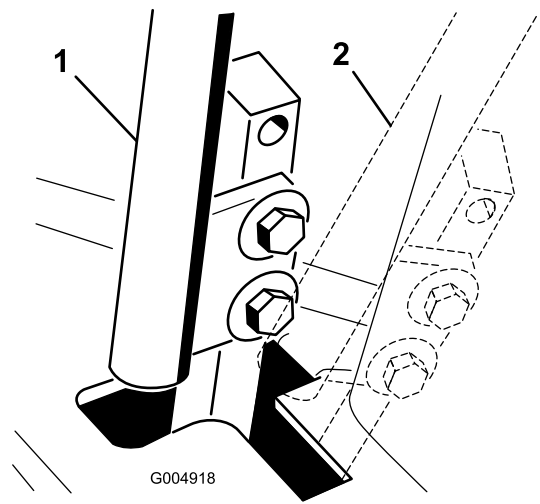

Figure 55
4. Move the control lever to the NEUTRAL position but **not locked** (Figure 55).
6. Check where the control lever is relative to notch in the console (Figure 55).